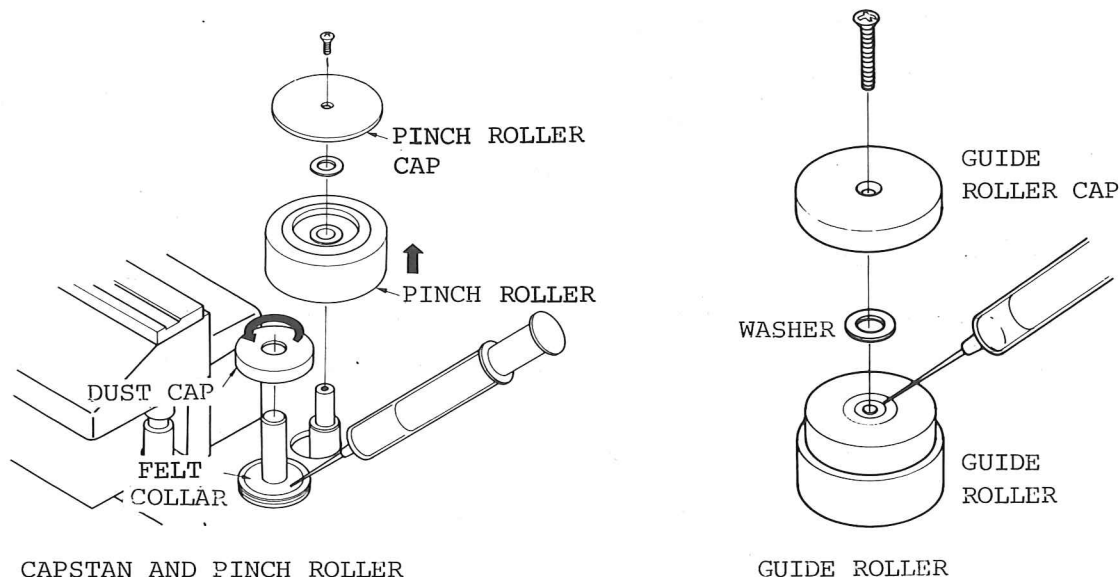

Fig. 2-3 Lubrication
The only components requiring lubrication are the capstan sleeve bearing, the guide roller bearing, and the capstan pinch roller bearing. Refer to Fig. 2-3 and proceed as follows:
1. Remove the guide roller cap by removing the screw on the cap as shown in Fig. 2-3.